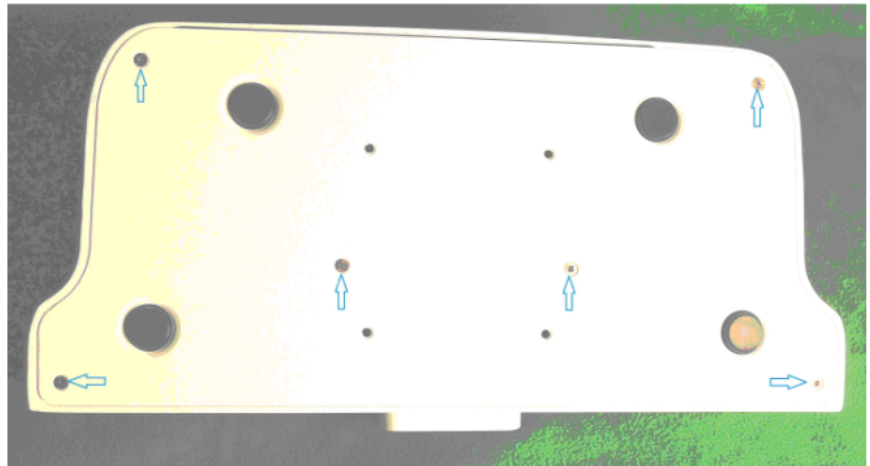

Figure 4-28 Docking Station Bottom View
- 2 Turn the docking station over. Remove the six screws from the docking station cover plate. Refer to Figure 4-28 on page 4-32.